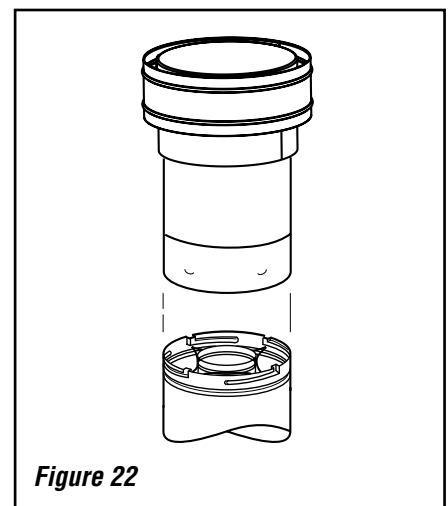

Figure 22
K. Install the vertical termination - The final step involves installation of the SV4.5CGV-1 Vertical Termination. Extend the vent sections to the height as shown in the "Vertical vent termination section" in **Figure 4B on Page 6**. The SV4.5CGV-1 Vertical Termination (**Figure 22**) can be installed in the exact same fashion as any other **Secure Vent™** section. Align the termination over the end of the previously installed section, adjusting the radial alignment until the four locking dimples of the termination are aligned with the inlets of the four incline channels of the last vent section. Push the termination down until it fully engages, then twist the termination clockwise running the dimples down and along the incline channels until they are seated at the end of the channels.